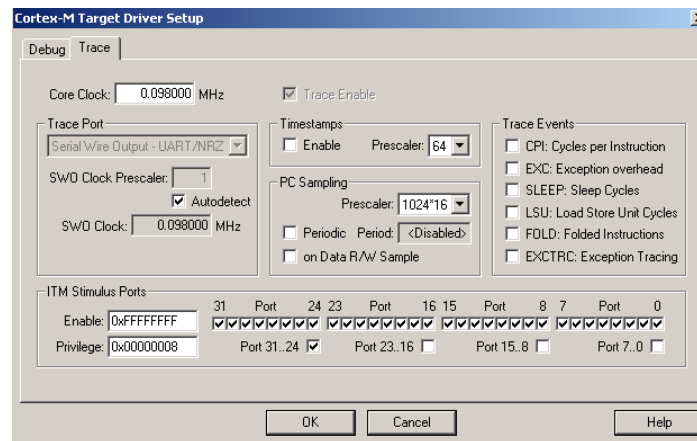

Figure 24: Trace Configuration for printf
5. Open Debug/Debug Settings and select the Trace tab. Confirm ITM Port 0 is selected, unselect Periodic, EXCTRC, on Data R/W Sample and TimeStamps Enable as shown in Figure 24.